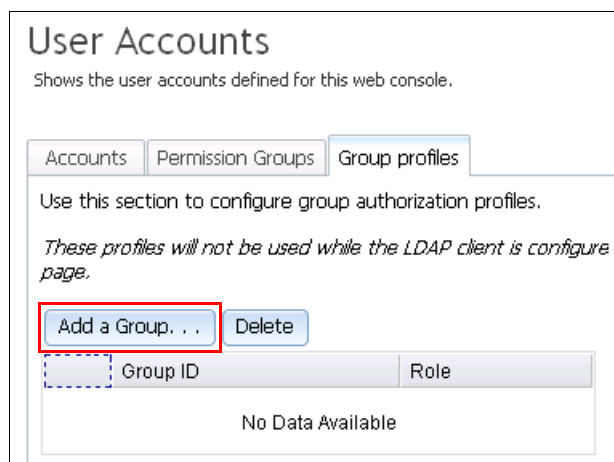

Figure 2-13 Group profiles tab
7. In the Group profiles tab, click **Add a Group** (as shown in Figure 2-13) to create the same group profile as the source AMM.